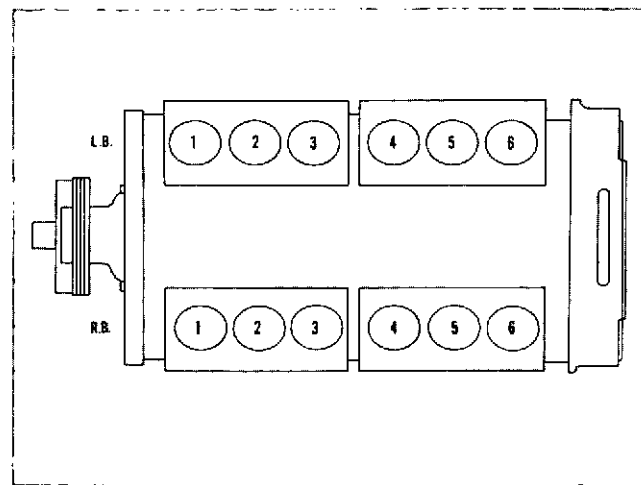

Fig. 2-65 (V414231) V-1710 firing order
6. For firing order see Table 2-7 for inline engines and Table 2-8 and Fig. 2-65 for V-1710 Series Engines.